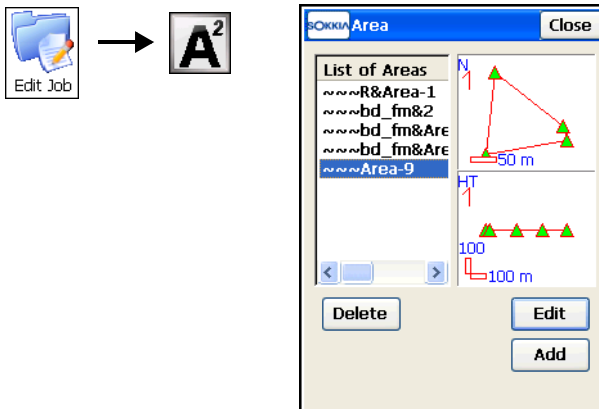

Figure 6-29. Select Area
Area is bound with a closed line. Line nodes (points) have the same code of area type to form an area boundary. To edit lineworks, tap **Edit Job** ▶ **Area**. The **Area** screen displays (Figure 6-29).
2. To delete the area from the list, tap **Delete** (Figure 6-29).